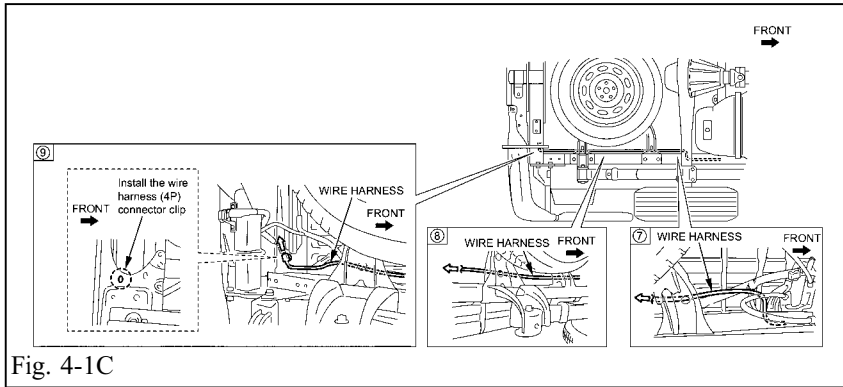

Fig. 4-1C
- (2) Install the wire harness (4P) connector clip to the position in the figure. (Fig. 4-1C)